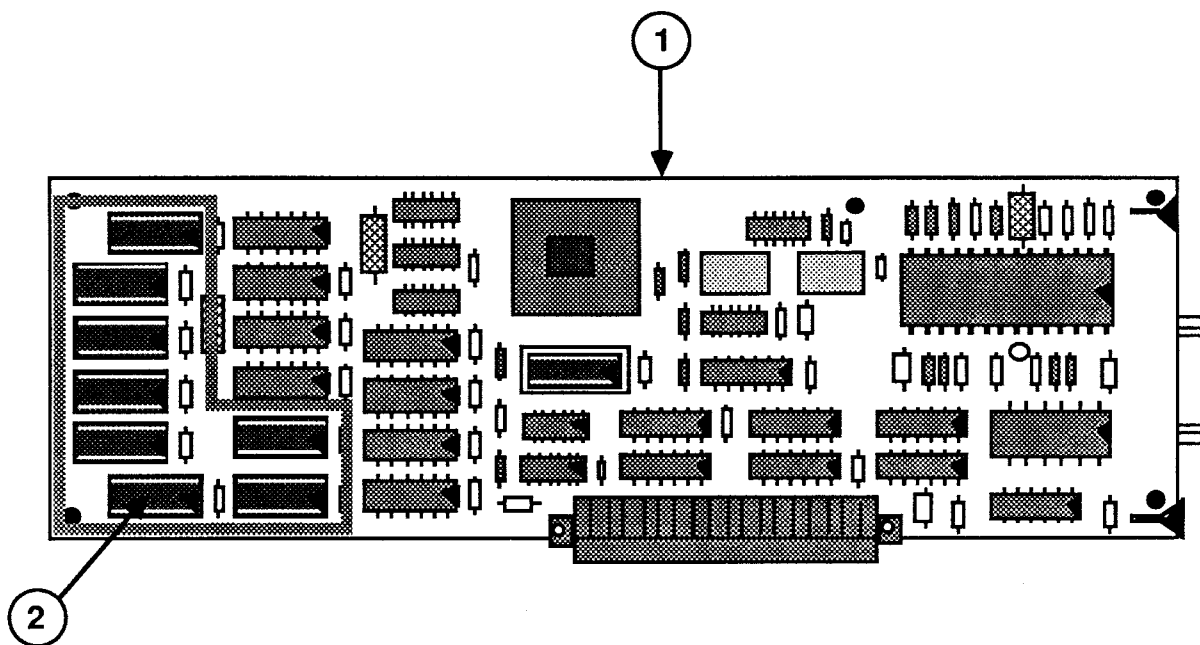

FIGURE 3
□ MACINTOSH II – VIDEO BOARD (Figure 3)